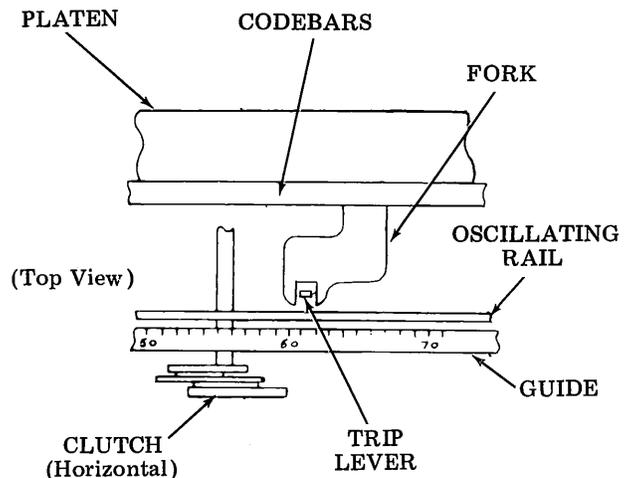

Figure 3 - Number 2 and Number 4 Codebar Fork and Clutch Trip Lever Alignment
- (2) View the typing unit from the top and check the alignment of the number 1, 2, 3, and 4 horizontal positioning clutch trip levers with the number 1, 2, 3, and 4 codebar forks. The correct alignment is shown in Figure 3.